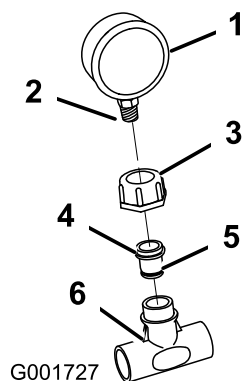

Figure 14
13. Wrap the pressure gauge threads with Teflon tape. Install the small plastic nut and reducer assembly to the pressure gauge. Use a hex wrench to screw the reducer assembly to the pressure gauge (Figure 14).
14. Install the pressure gauge assembly to the plastic tee (Figure 14).